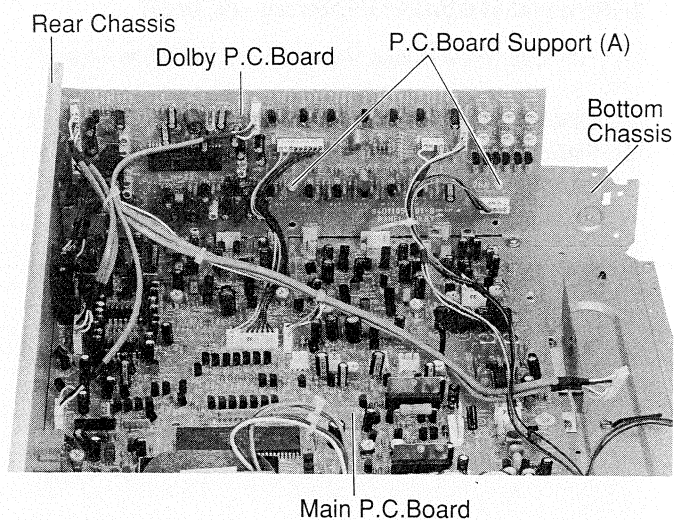

Figure 10
- (1) After removal of the top cover, remove two P.C.Board supports (A), by pushing the "B" point as shown in Figures 10 and 11.
- (2) Disconnect all connectors from the P.C.Board.